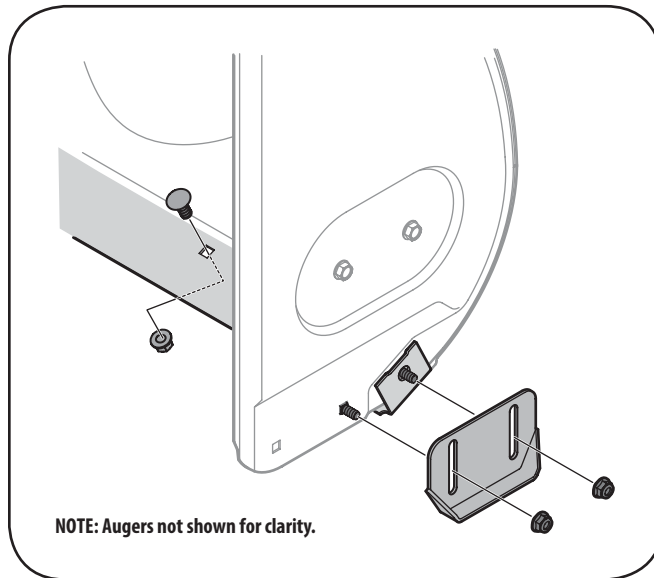

Figure 6-3
1. Remove the carriage bolts and nuts securing each skid shoe to the auger housing, See Figure 6-3.
1. Remove both skid shoes and hardware including carriage bolts and nuts which attach shave plate to the snow thrower housing. For location of shave plate, see Figure 6-3.